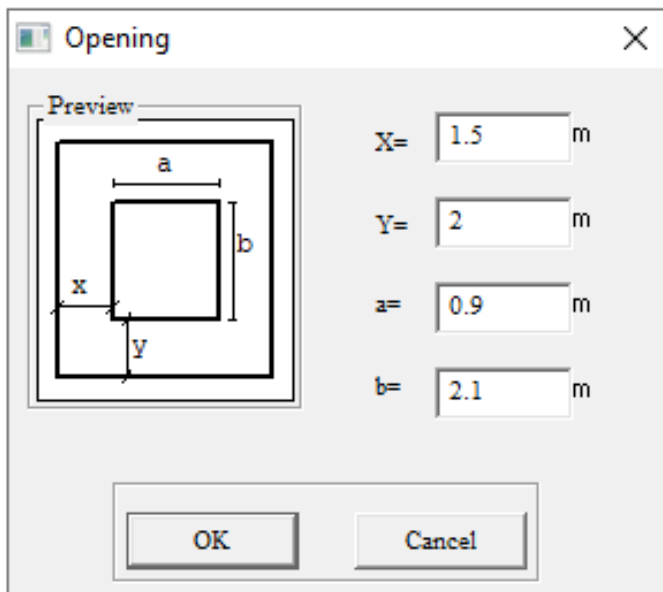

Fig. 13 – *Opening* dialog box
- click the Rectangular button — the Opening dialog box will open (Fig. 13), in which you can specify the window (door) parameters;